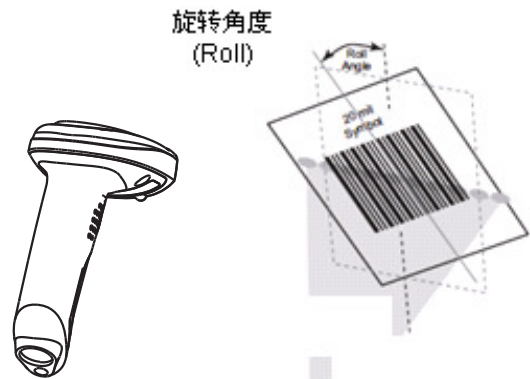

Fig. 1-11
- ✧ Roll : $\pm 30^\circ$, 0° Pitch and 0° Skew (Fig. 1-11)